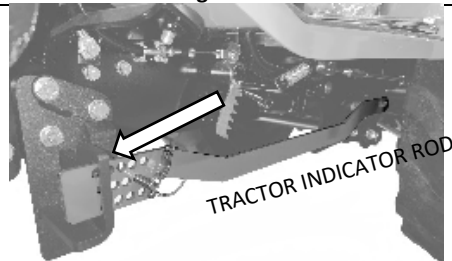

Figure 7B
6. Insert the front portion of the Tractor Indicator Rod (item 7) into the slot of the Tractor Deck Stop as shown in figure 7B.